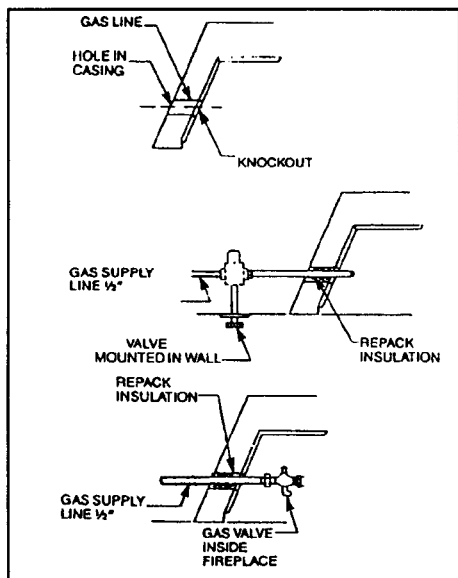

Figure 3. Gas line installation - Prefabricated Fireplace
- D. **Prefabricated fireplace.** Refer to the manufactures fireplace instruction manual for specific information regarding the running of a gas line into that particular model. A typical prefab installation involves the insertion of a 1/2 inch gas pipe through the gas line tube provided by each manufacturer from **outside** the fireplace. The Knockout on the inside of the fireplace is removed as the gas pipe is punched through the fireplace. (See Figure 3.)